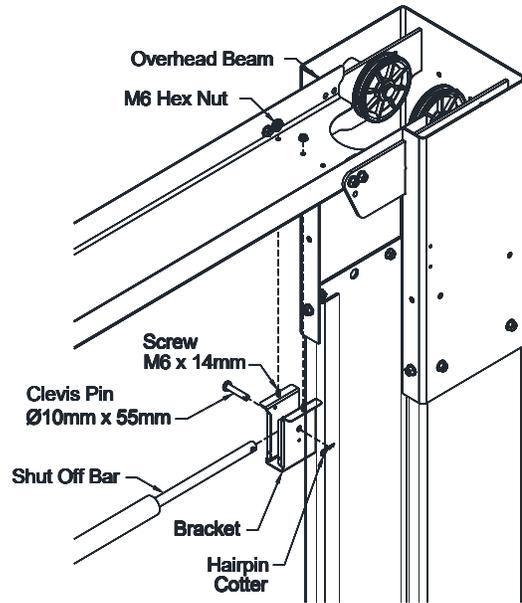

Fig. 9b – Overhead Bracket Idler Side
- 22) Install the idler bracket to the overhead beam using the rear set of holes on the idler side of the lift. Fig. 9b. Note the orientation of the idler bracket. The narrow slot needs to be facing towards the power column. Slide the shutoff bar over the limit switch on the power side. Pin the shutoff bar to the idler side bracket with the 10mm dia. x 55mm lg. clevis pin & hairpin cotter.